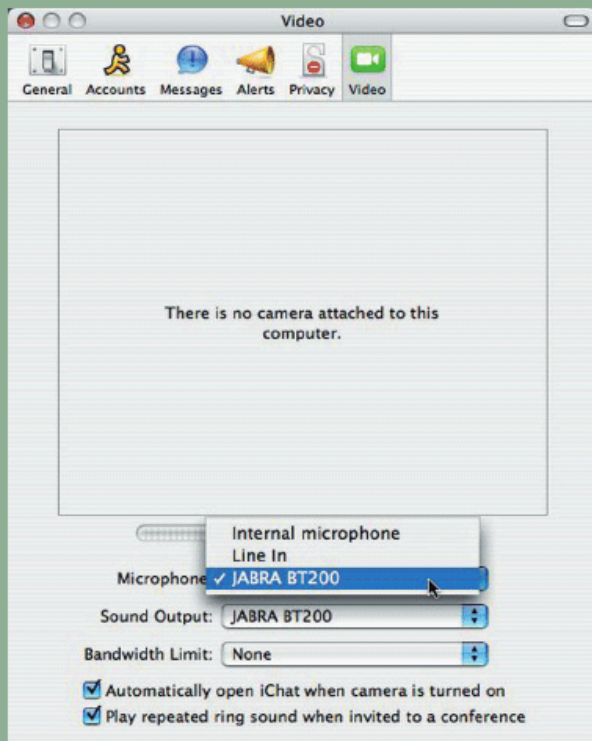

Figure 3: iChat AV > Preferences > Video pane
7. Set the "Microphone" and "Sound Output" pop-up menus to your headset, as shown in Figure 3.